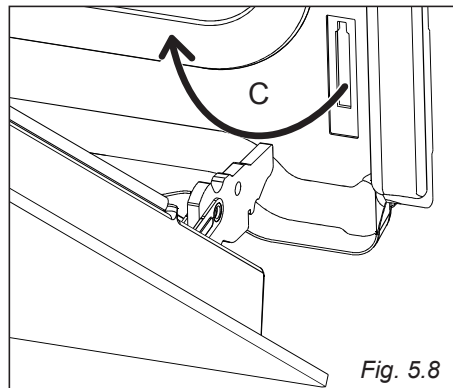

Fig. 5.8
- Withdraw the hinge hooks from their location following arrow "C" (fig. 5.8).